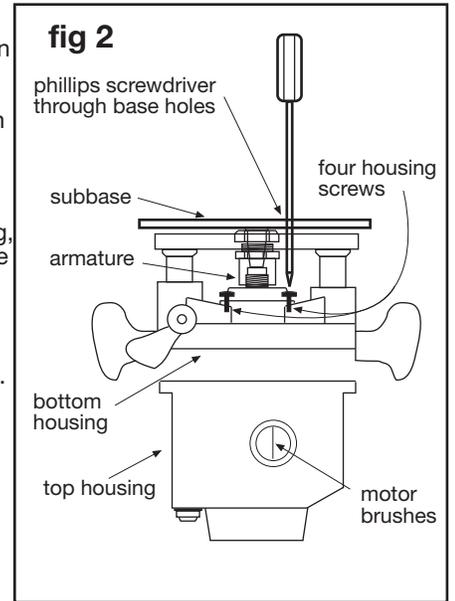
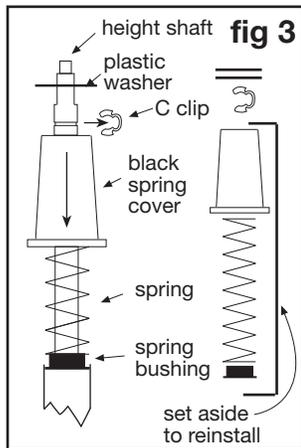
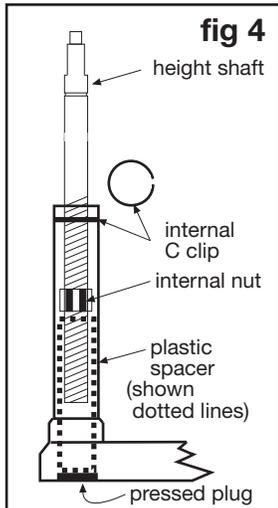

fig 2
fig 3
fig 4
2. Remove four screws securing lower motor housing (fig 2). Secure the power switch in the on position by wrapping it with tape or a plastic tie strap, to hold it in position when the router is separated. Separate the upper and lower case halves by pulling them apart. No loose parts will fall out., the armature will remain in the bottom housing.
3. Remove subbase (fig 2). Stand bottom housing upright, Using (fig 3) press down black spring cover and remove C clip. Remove black spring cover, spring, and spring bushing. Using a small screwdriver remove internal C clip (fig 4) **NOTE: unthreading height shaft from internal nut improves C clip removal.** Remove internal nut. The pressed plug and plastic spacer in bottom of post must be removed. Place height rod into post, tap with hammer to remove plug. Store plug, plastic spacer, internal nut & height rod, internal C clip, external C clip washers & height knob.
1. Using (fig 2) Adjust #21 lead screw, leaving approximately 1/2" exposed threads. Plunge router by hand 1/8" past desired height, and secure plunge lock.
Using (fig 3) To prevent damage to the #1 mainshaft and #21 lead screw, adjust the lead screw leaving 1/2" threads exposed. Grasp router handles, release plunge lock, advance router up until lead screw rapid collar and retainers are all in contact, engage plunge lock.